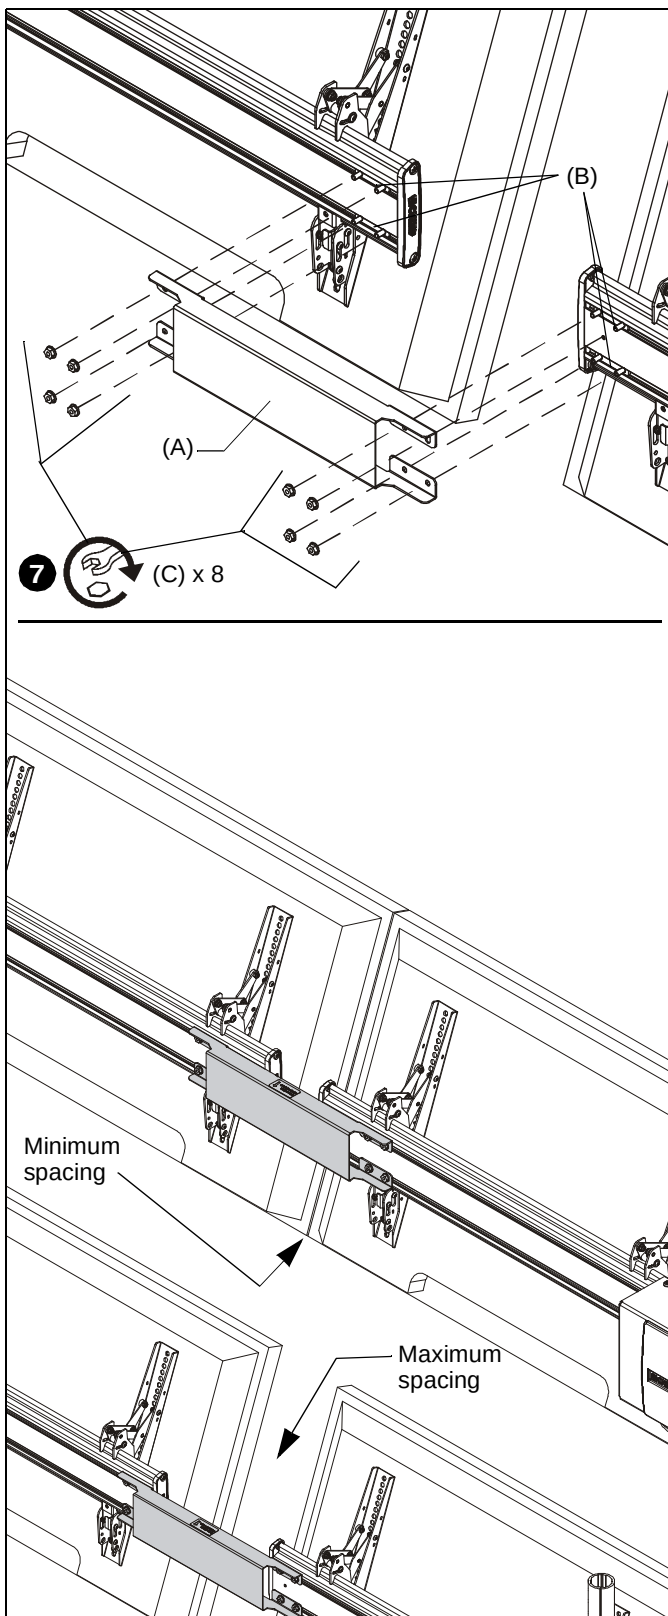

Figure 3
7. Attach FCAC (A) to T-slot nuts (B) using eight 1/4-20 hex nuts (C). (See Figure 3)
NOTE: See the maximum spacing and minimum spacing examples of the FCAC. (See Figure 3)